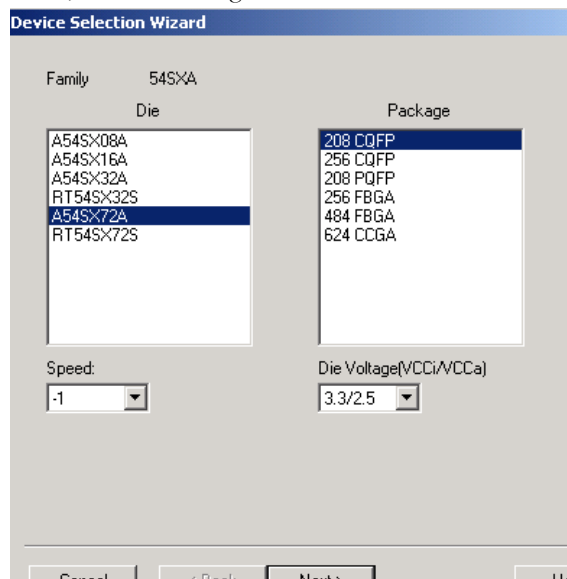

Figure 7-14. Device Selection Dialog Box
1. **In the Tools menu, click *Device Selection*.** The Device Selection Wizard starts, as shown in Figure 7-14.